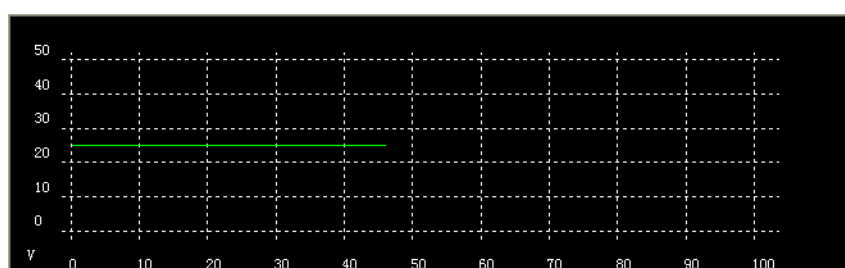

Figure 36
- B. Voltage operating curve, as figure 36: